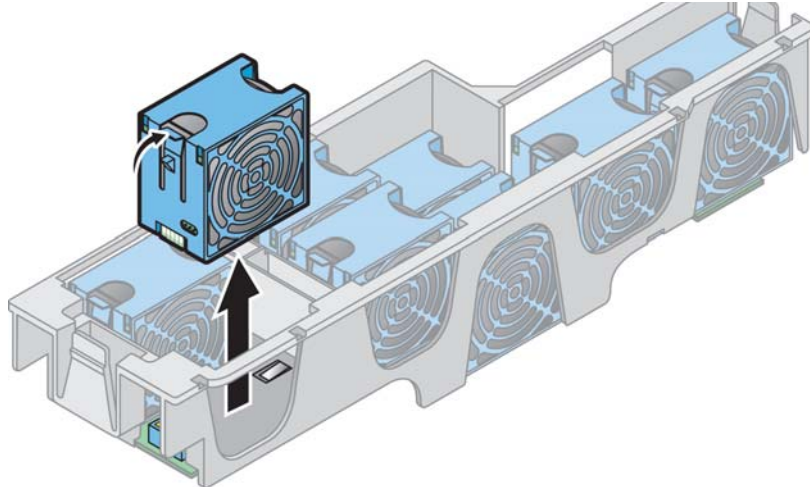

FIGURE 5-20 Removing an Individual Cooling Fan (Cage Shown Removed From Server)
4. **Squeeze the retainer clip on the edge of the fan, then pull the fan straight up to disengage its connector and remove it from its fan cage (see FIGURE 5-20).**
Squeeze the retainer clip on the edge of the fan, then pull the fan straight up to disengage its connector and remove it from the fan cage (see FIGURE 5-20).
Squeeze the retainer clip on the edge of a fan, then pull the fan straight up to disengage its connector and remove it from the fan cage (see FIGURE 5-20).